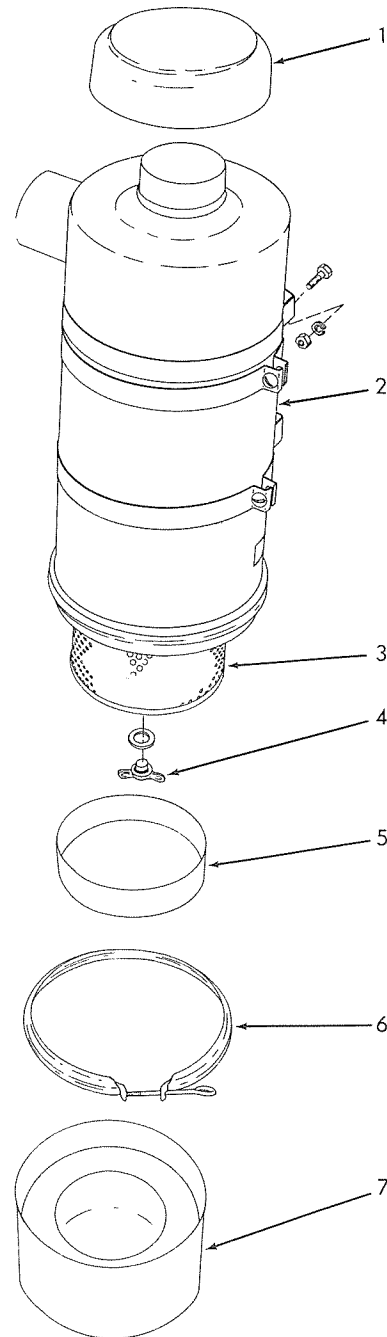

Fig. 3 — Air Cleaner (Type III)
3. DESCRIPTION OF AIR CLEANER (TYPE III) Fig. 3
- d. On units equipped with Type III (Fig. 3) air cleaner, remove the rain cap (1) and cover the opening in the air cleaner body with a piece of air tight rubberized or plastic material. Secure with a hose clamp.